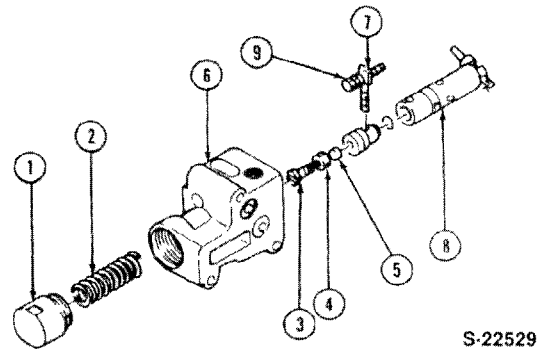

Figure 41
2. Remove the control valve spool as follows. See Figure 41.
- Remove the cap (1) and spring (2) from the valve body.
- Loosen the locknut (4) and remove the screw (3) and plug (5) from the control valve spool (8).